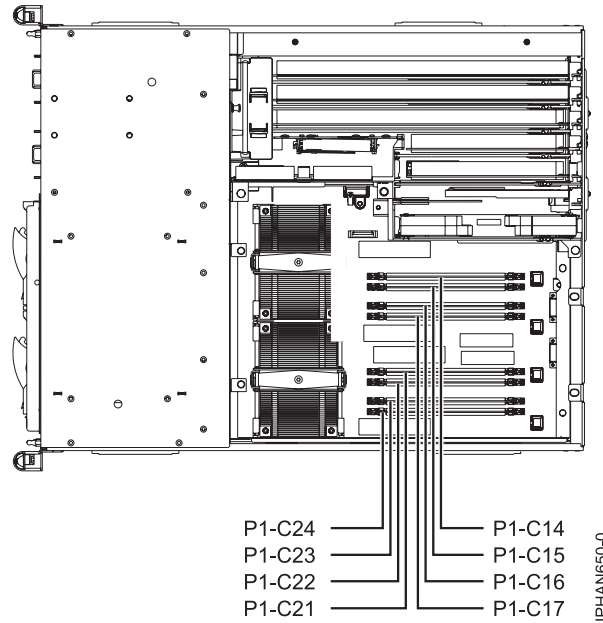

Figure 16. Memory module slot locations
- Determine the slots in which the memory modules will be placed. Each system has eight memory module slots. See Figure 16 on page 27 for memory module slot locations in the system. The memory modules should be plugged into the slots as shown in the following tables: